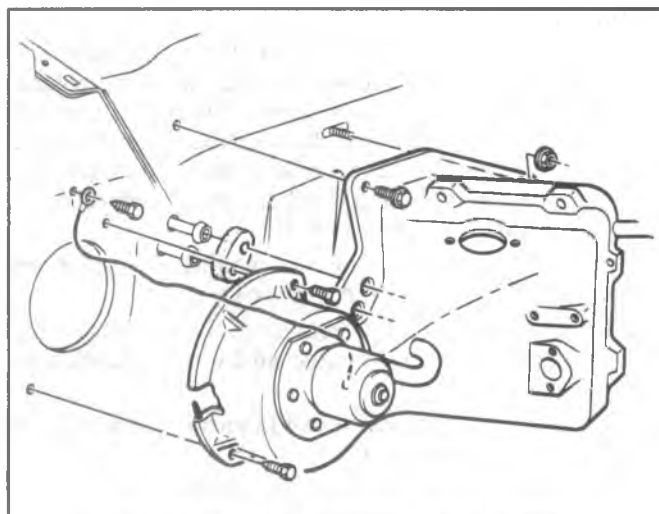

Fig. 1B-28--Blower-Evaporator (C-K Series)
**EVAPORATOR CORE****Replacement (Fig. 1B-28)**